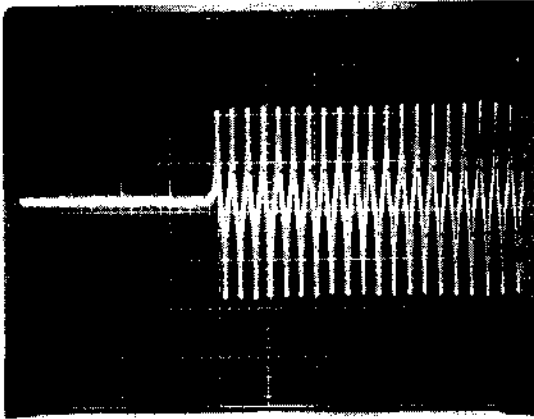

FIGURE 35. INDEX TIMING
- g. Observe the timing between the start of the sweep and the first data pulse. This should be $200 \pm 100\mu\text{sec}$. If the timing is not within tolerance, continue on with the adjustment. Reference Figure 35.